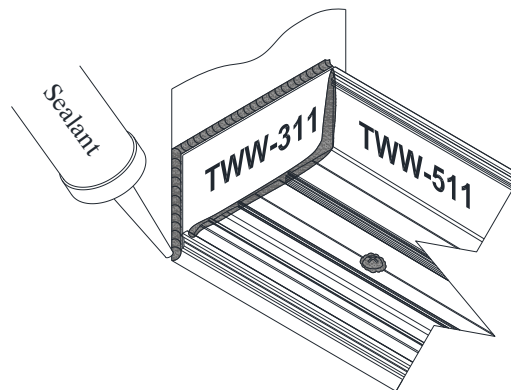

Figure 61: Sill Receptor Sealing at End Dam
- 17.3 Wedge shims tightly between End Dams and jamb substrate at each end prior to installing frame panels. These shims prevent the End Dams from being dislodged while frame panels are being installed. Completely seal End Dams as shown in *Figure 61*.